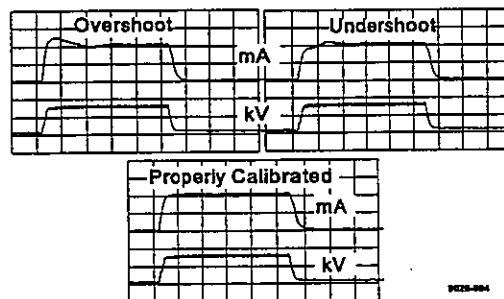

FIGURE 3-4 PREHEAT WAVEFORMS (mA)
13.  Make an exposure and observe the mA waveform (FIGURE 3-4). Adjust the PREHEAT value by using the [+] and [-] keys. These will change the PREHEAT Offset value shown. The PREHEAT value will also change by the new PREHEAT Offset value. When the value shown is acceptable, press the STORE switch. Two audible beeps will be heard indicating that the value is stored. Repeat this step until the mA waveform is correct.
17.  Make an exposure to verify the proper preheat waveform (FIGURE 3-4). If it is too high or too low, select 125 kVp again and increase or decrease the PREHEAT Offset value, [STORE] and return to 80 kVp for waveform verification.